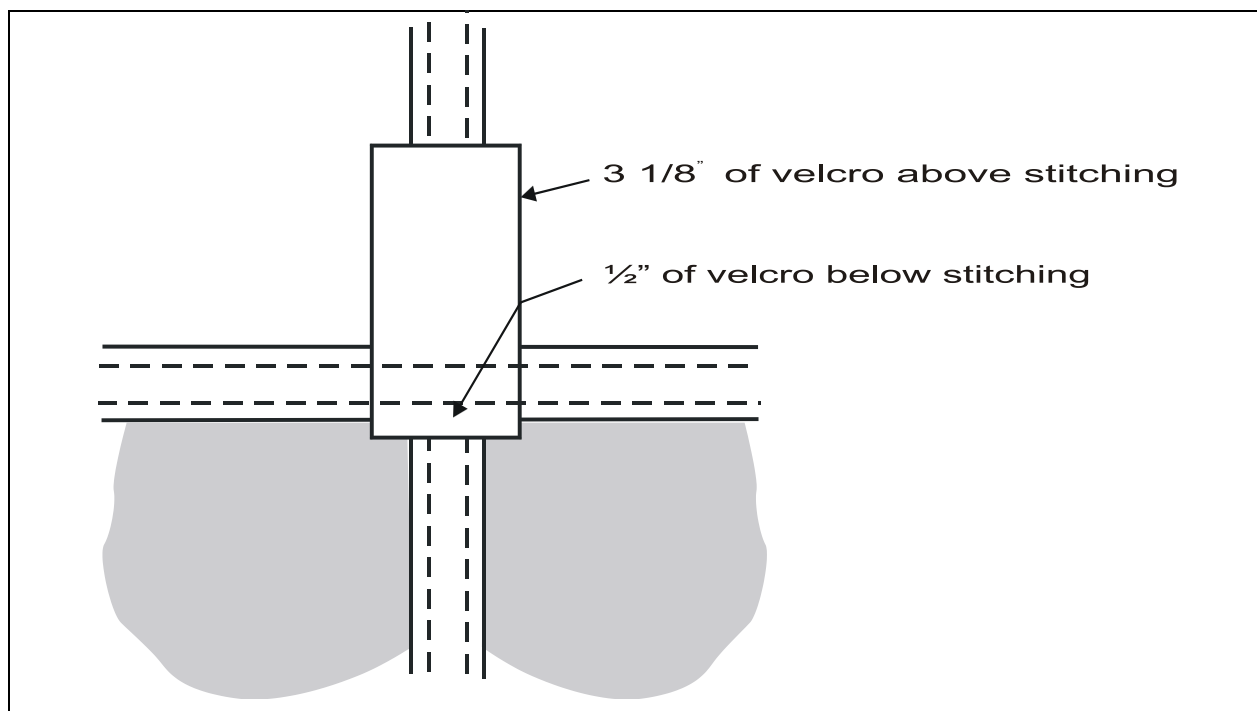
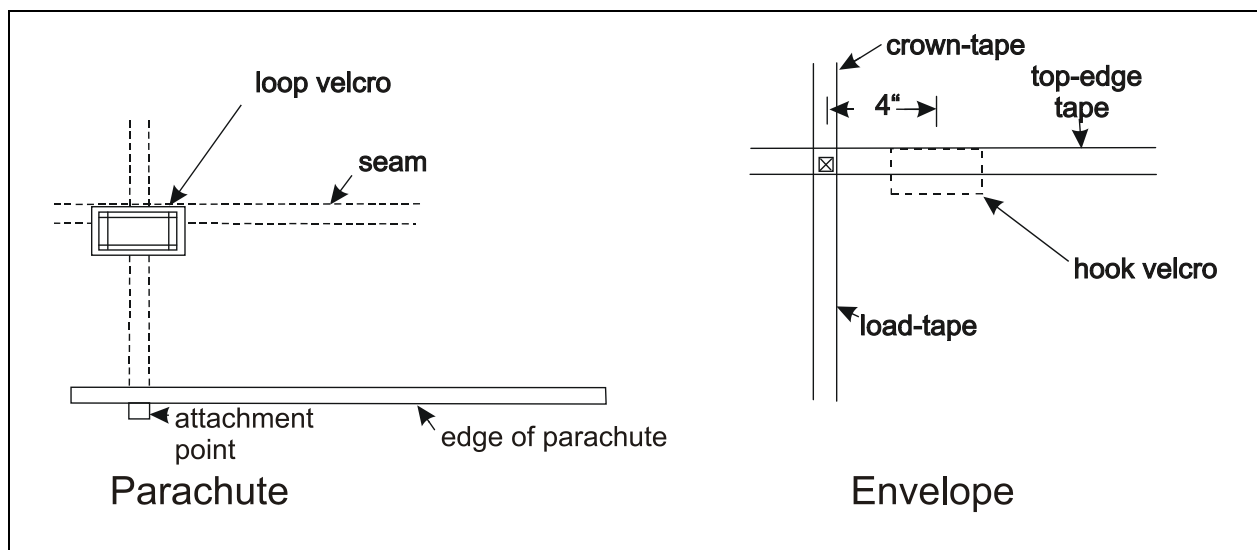

FIG. 4.25
FIG. 4.25a
There are currently three styles of parachute Velcro™ tab installation. The old style is illustrated in Fig. 4.25. The second old style is illustrated in Fig. 4.25a. See Appendix K for the current style.
- 1) The **Velcro™ (hook)** tabs on the **ENVELOPE** should be installed by stitching through the Velcro™, an identical size flat webbing (for reinforcement), envelope fabric and the parachute opening tubular tape as illustrated in Fig. 4.25a. A double row of stitching should be sewn around the inside perimeter of the Velcro with backstitching at the beginning and end.